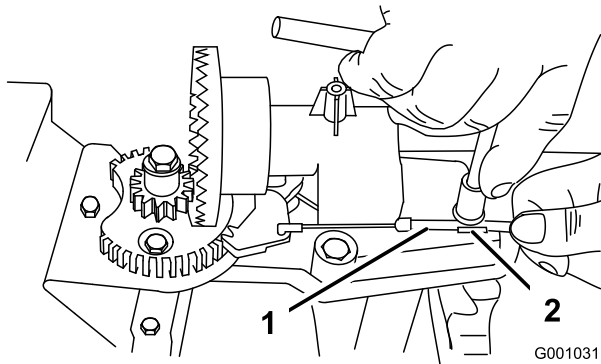
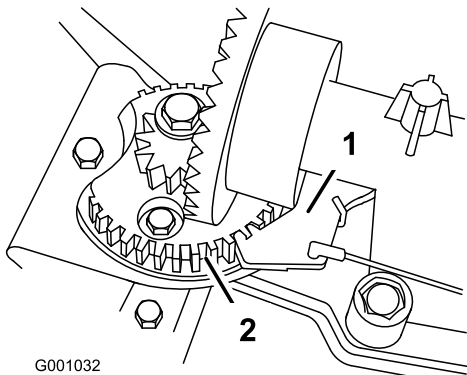

Figure 52
Figure 53
- Loosen the bolt on the cable clamp (Figure 52).
- Grasp the cable conduit and move it toward the front of the machine until the discharge chute latch fully engages the gear teeth (Figure 52 and Figure 53).
Note: The latch is spring loaded and will naturally move into the teeth of the gear (Figure 53).